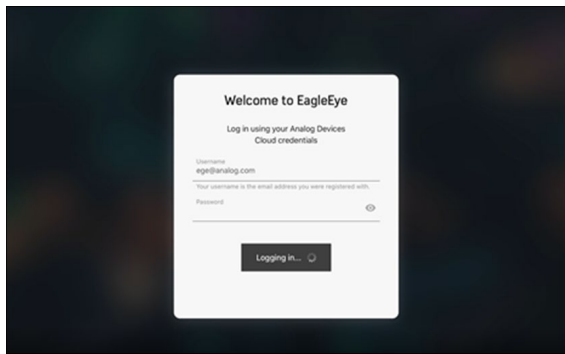

Figure 7. Analog Devices Cloud Login Screen
1. Open the tablet app and log in with the Analog Devices Cloud login credentials provided during the registration to the Analog Devices cloud (see Figure 7).